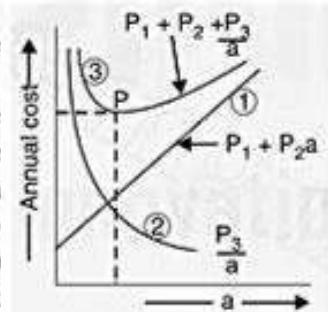

Fig. 7.28
Graphical illustration of Kelvin's law. Kelvin's law can also be illustrated graphically by plotting annual cost against X-sectional area ' a ' of the conductor as shown in Fig. 7.28. In the diagram, the straight line (1) shows the relation between the annual charge (i.e., $P_1 + P_2 a$) and the area of X-section a of the conductor. Similarly, the rectangular hyperbola (2) gives the relation between annual cost of energy wasted and X-sectional area a . By adding the ordinates of curves (1) and (2), the curve (3) is obtained. This latter curve shows the relation between total annual cost ($P_1 + P_2 a + P_3/a$) of transmission line and area of X-section a . The lowest point on the curve (i.e., point P) represents the most economical area of X-section.